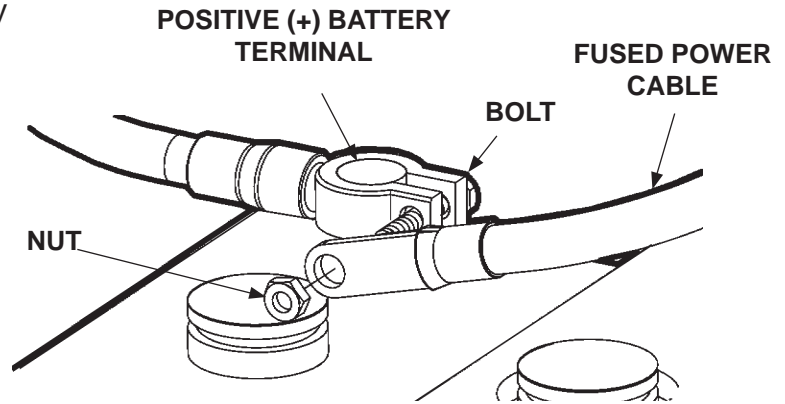

FIG. 2-1
1. Remove nut from positive (+) battery terminal connector. Disconnect the fused power cable (**FIG. 2-1**). Re-install nut.